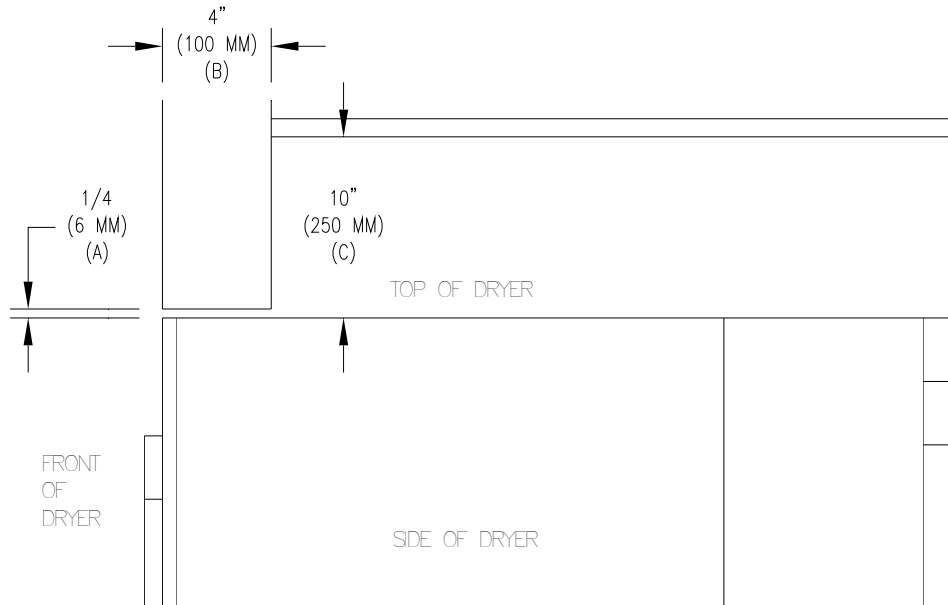

FIGURE 2— Vertical Clearance Dimensions
- V. Top             Refer to Figure 2 labeled "Vertical Clearance Dimensions".